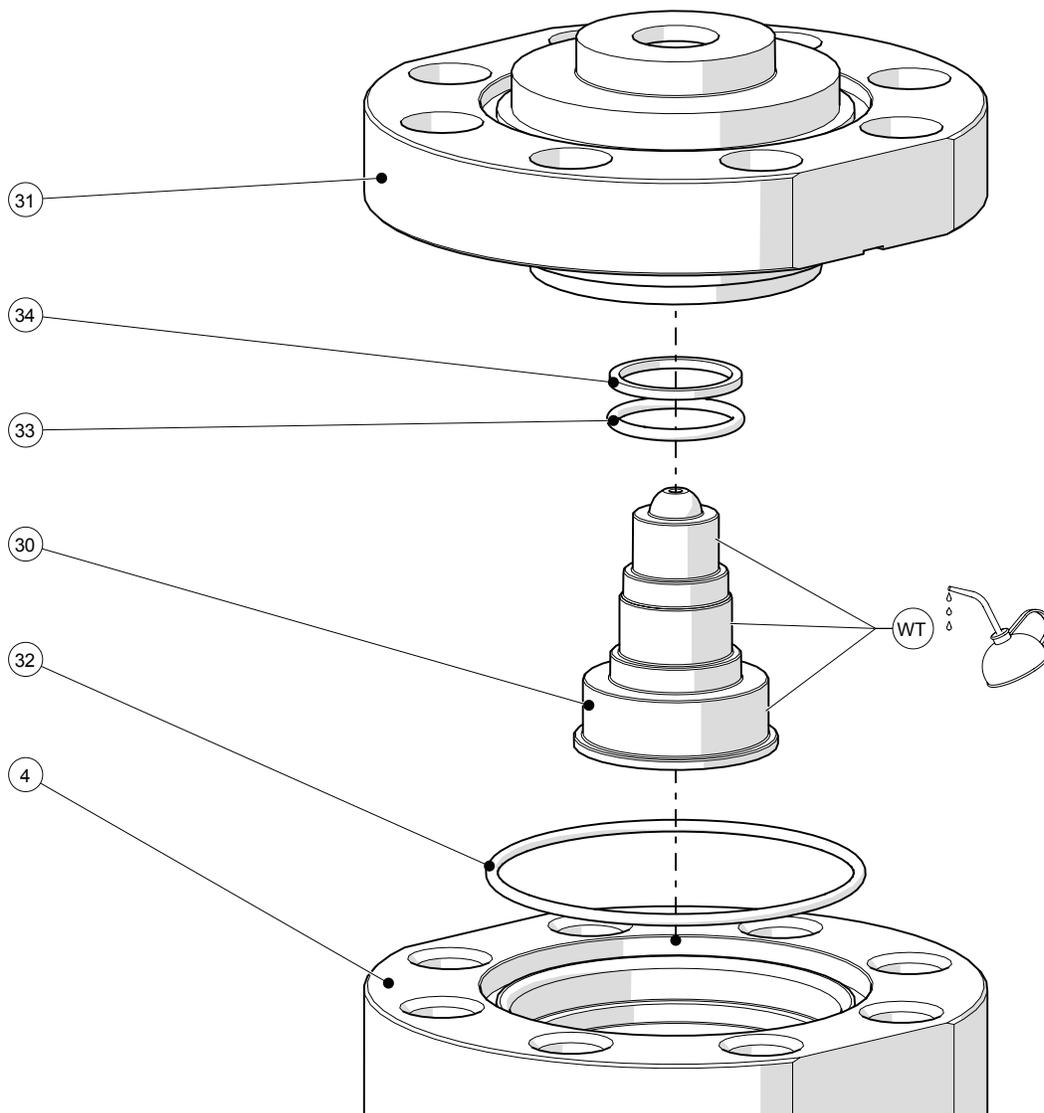

Figure 17
See Figure 17.
1. Lightly lubricate the primary sealing steps of the piston (30).
2. Fit the piston O-ring (33) and piston back-up ring (34) onto the piston (30). Ensure that they are ordered correctly, as shown in Figure 17.
3. Insert the piston (30) into the piston plate (31).
4. Fit the body O-ring (32) into the body (4) then fit the piston plate (31) onto the body (4) aligning the flats on both components.